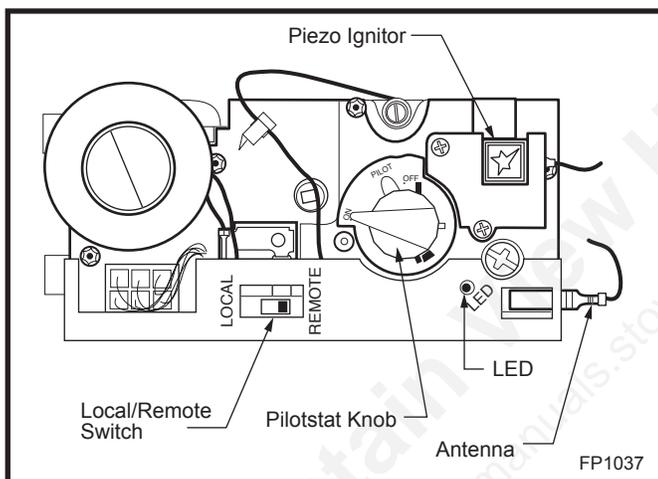

Fig. 25 Comfort control valve.
1. If the manual switch is in remote position, switch it to LOCAL. (Fig. 25)